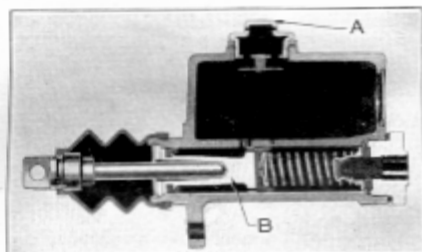

Figure 47
A master cylinder, Figure 47, incorporating compensating features, is mounted on the pedal mounting bracket and is accessible for checking level by raising the bonnet. The master cylinder has an integral reservoir from which additional fluid is supplied to the system as required.
Dirt is injurious to the system and extreme care should be taken to wipe off cap (A), Figure 47, before removing cap for inspection and filling.
As pressure is exerted on the master cylinder piston (B), Figure 47, through the brake pedal, the force built up in the hydraulic brake tubes tends to force outward wheel piston cups and pistons, expanding the brake shoes at the top.